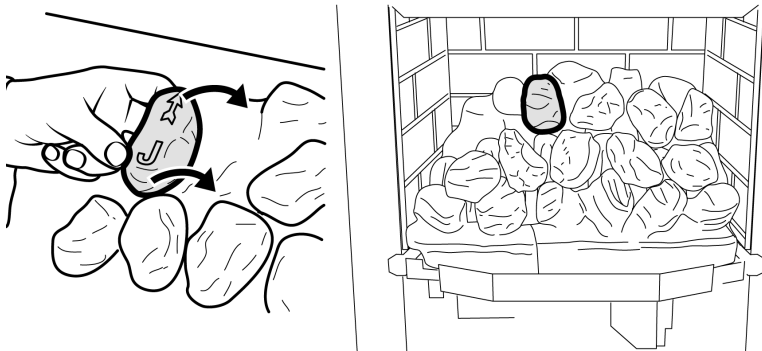

Figure 43. Third row "Coal J"
**19.** Hold coal 'J' upright with the arrow pointing to the top. Locate coal 'J' as shown in figure 43